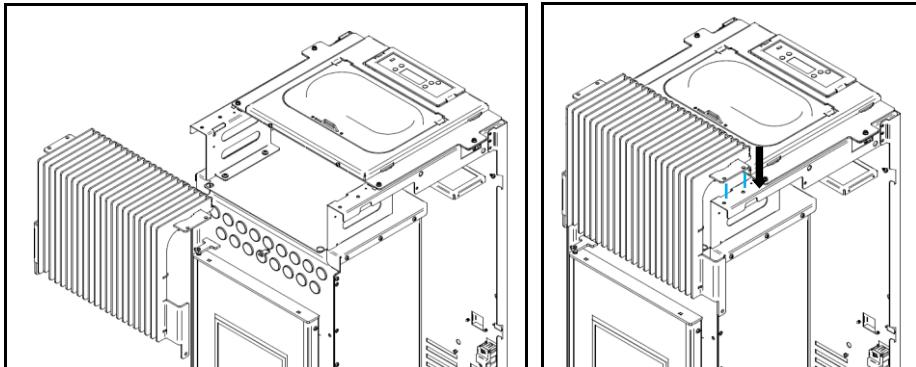

Figure 36 - Fitting the front grille
- b) On **Pine, Leaf and Aspen** equipment. Fit the front grille, matching the holes in the grille to the holes in the appliance (Figure 36).